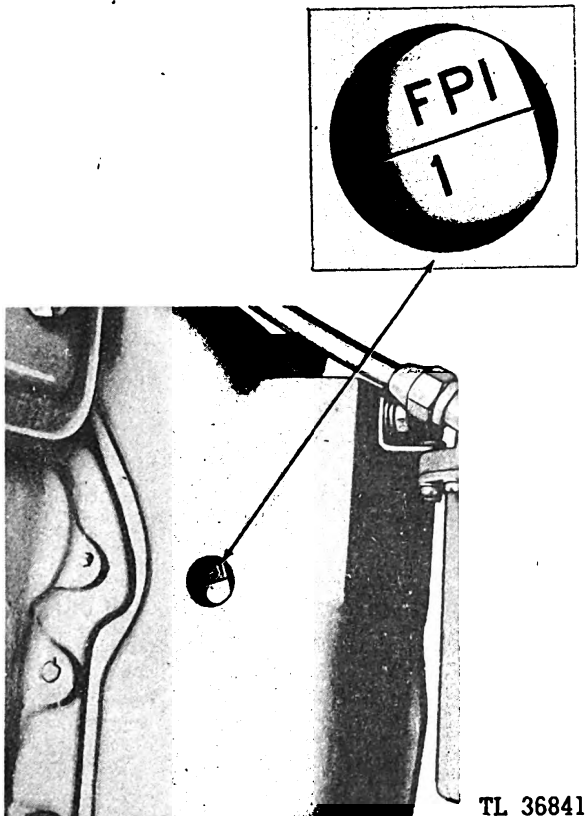

Fig. 189. Timing Mark in Flywheel Housing
(2) Turn the engine crankshaft in the direction of rotation until the mark F. P. I. centers in the timing hole in the flywheel housing. (See Figure 189.) No. 1 cylinder should be